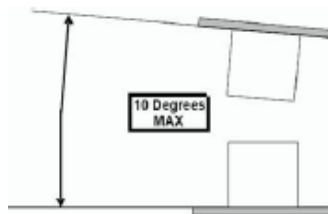

Figure 3-2 Maximum Angle of 10 Degrees
The maximum allowable angle for connecting the three types of 3-Stack boards is 10 degrees, to avoid damages in the connectors, as shown in Figure 3.2.
- To build a demonstration platform, follow the procedures in “Build a Demo Platform: Assemble 2 Boards” on page 20. Figure 3-2 illustrates the maximum angle at which the boards can be separated.